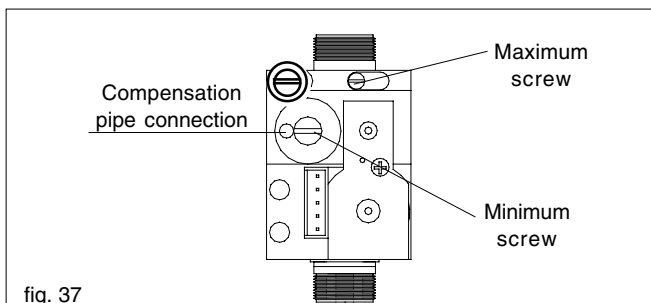

fig. 37
- Using a 2.5mm Allen key, very slowly turn the maximum adjustment screw (see fig. 37) – clockwise to decrease, counter clockwise to increase – until the correct value is displayed on the CO2 analyser (allow time for the analyser to stabilise).